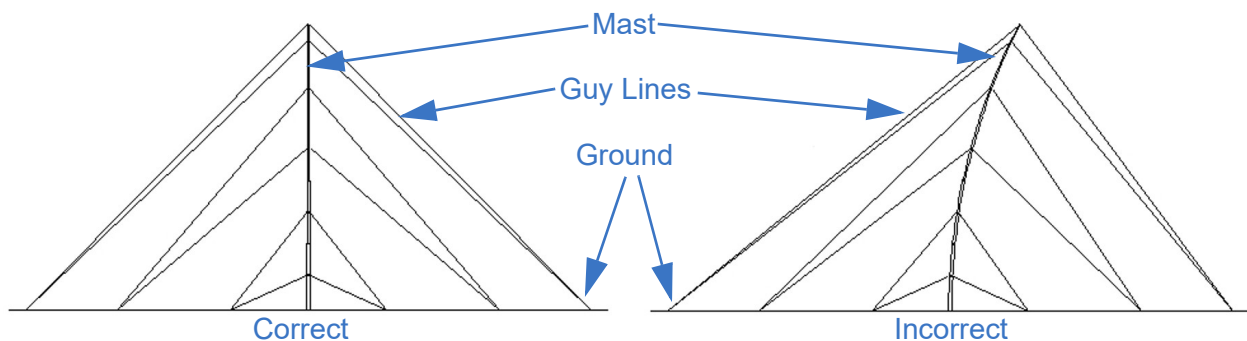

Figure 5-3 Vertically Align the Mast (Sample Shown with 6 Level Guying)
15. If guy lines are used, properly secure and tension the guy lines immediately after raising the mast. The installer shall verify the guy anchor point strength is adequate to support the guy line forces. All guy lines should be equally tensioned. Beginning at two locations opposite each other, gradually tension each guy line. Vertical alignment of the mast is accomplished by observing the mast perpendicularly to the two guy lines being tensioned to ensure the mast is standing straight, and is not bending too far towards one side (Figure 5-3). Adjust the appropriate guy line as necessary to keep the mast plumb vertically. Check one day after initial install. Check periodically afterwards.